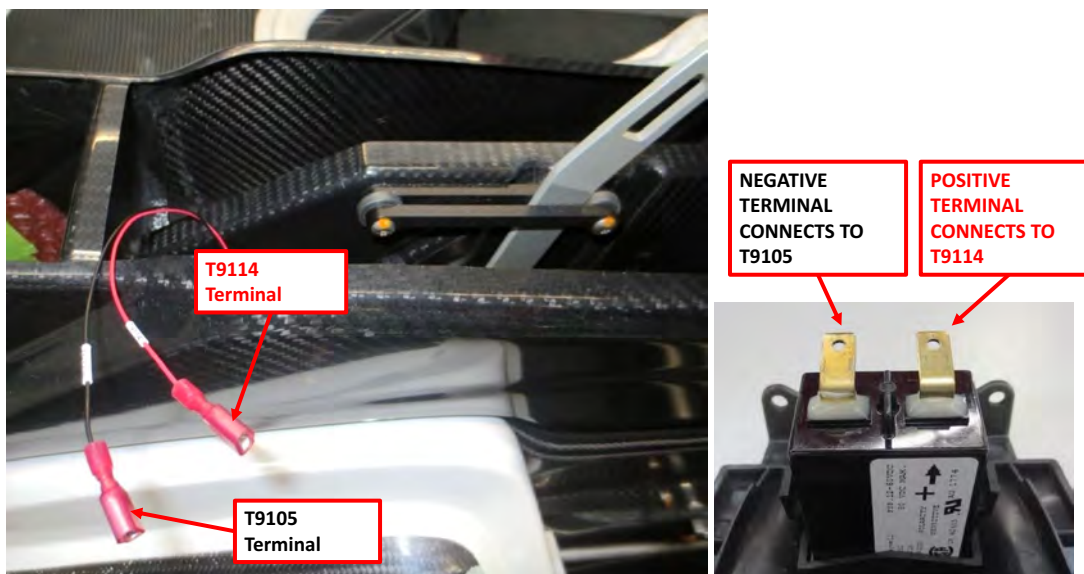

FIGURE 8-10
1. Connect electrical connections as follows, refer to Figure 8-10: